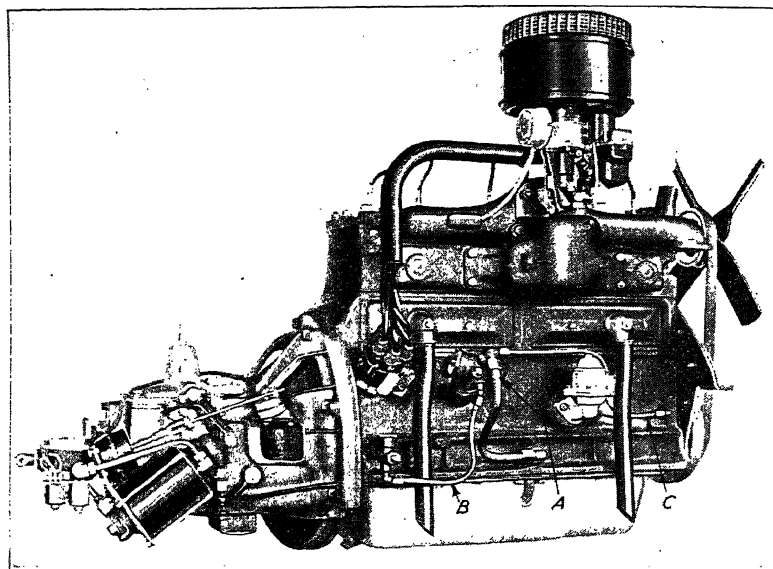

Fig. 32. Right Side of Terraplane Six Engine Which Develops 88 Horsepower with a 6-1 Compression Ratio Secured with a 7-1 Compression Head
**Splash Lubrication of Hudson and Terraplane Engines.** The position of mounting the oil pump on the Terraplane Six, the Hudson Six, and the Hudson Eight 1935 engines varies somewhat but the general principle of lubrication remains the same. This is splash lubrication. The oil pump, which is shown at *A*, Fig. 32, is mounted on the outside of the engine and operated from the cam shaft and serves to draw oil from the oil sump through a large tube, shown on the outside of the